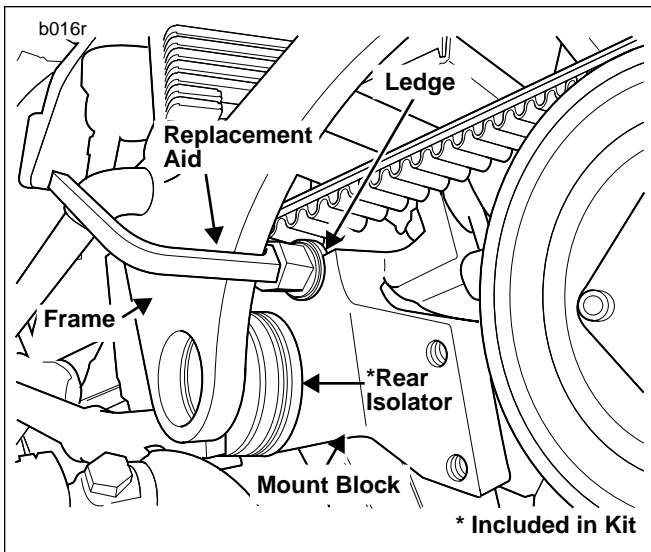

Figure 4. Rear Isolator Replacement Aid In Use
16. See Figure 4. Working on the right side first, insert the rear isolator replacement aid between mount block and frame. NOTE: Ledge on aid should engage top of mount block.
10. See Figure 4. On right side of motorcycle, insert rear isolator replacement aid between mount block and frame.